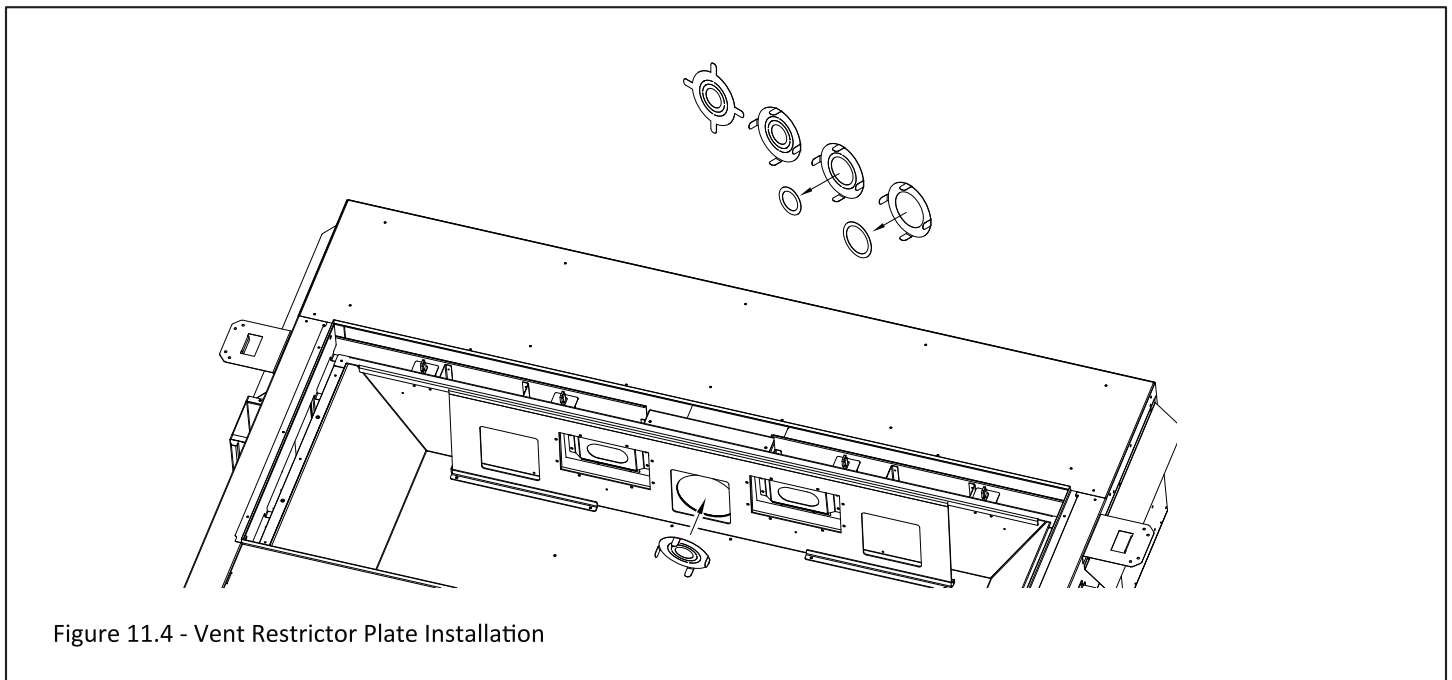

Figure 11.4 - Vent Restrictor Plate Installation
Vertical terminations may display an active, compact flame. If this appearance is not desirable, a restrictor plate may need to be installed or modified after vent termination installation. Access to the vent exit for restriction can be reached through the fireplace baffle. See Figure 11.4
3. Through the firebox ceiling, insert restrictor plate into the 5” (127mm) exhaust pipe with the tabs pointing towards you. See Figure 11.4.
2. Through the firebox ceiling, remove the restrictor plate from the 5” (127mm) exhaust pipe by pulling the restrictor plate down and out. See Figure 11.4.